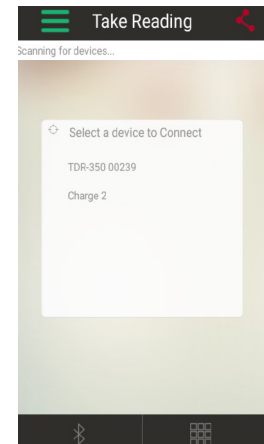

Figure 6 - Scanned Device List
9. Select the TDR from the device list (Figure 6)